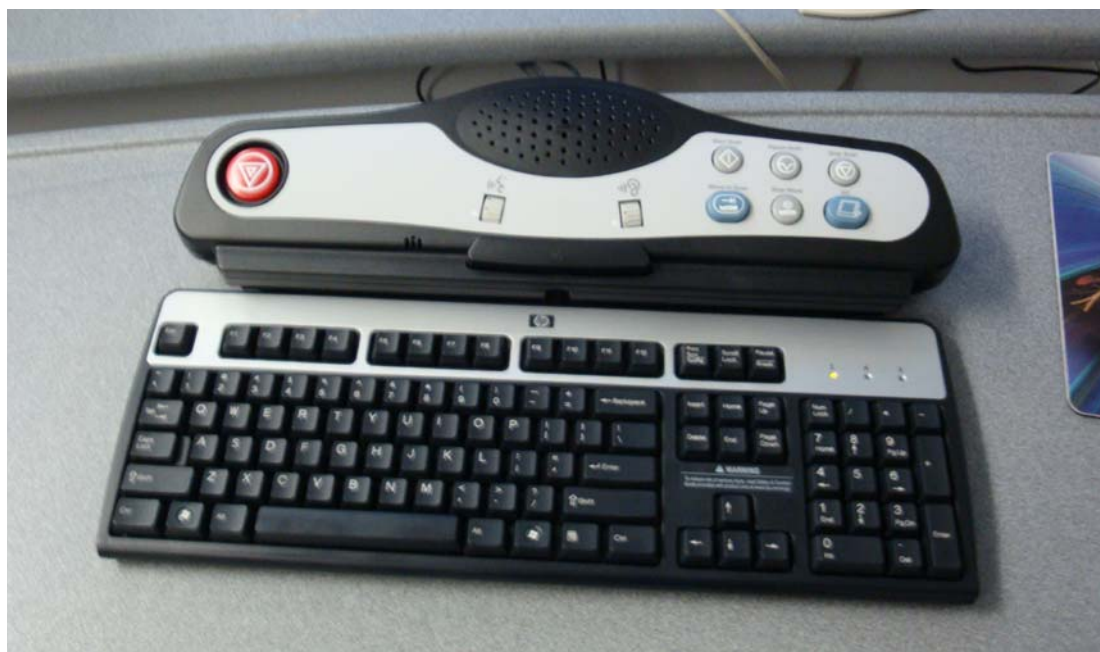

Figure 2-12 SCIM connected to the keyboard with the US English tilt overlay installed (actual components may vary in color and style)
- 8.) Select and install the proper keyboard overlay for your system: (1) with tilt or (2) without tilt. Verify that none of the buttons get caught and stuck under the overlay. Pay close attention to the prescribed tilt button on systems with the tilt feature.
- 9.) The keyboard should attach to the SCIM using the supplied Velcro strip and fit snugly against the SCIM when finished, as shown in Figure 2-8 and Figure 2-12.
- Template overlay (Figure 2-12)
- Keyboard (see Figure 2-12)